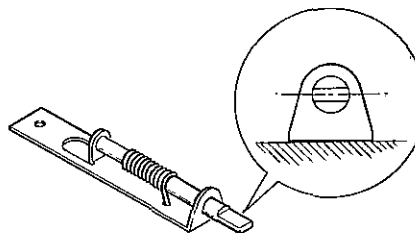

Fig.2-10
- 1) Install the upper cabinet and the LCD section by reversing the disassembly procedure. When installing the tilt mechanism, set the shaft horizontally in parallel to the angle bottom and insert into the LCD section. (Fig. 2-10)